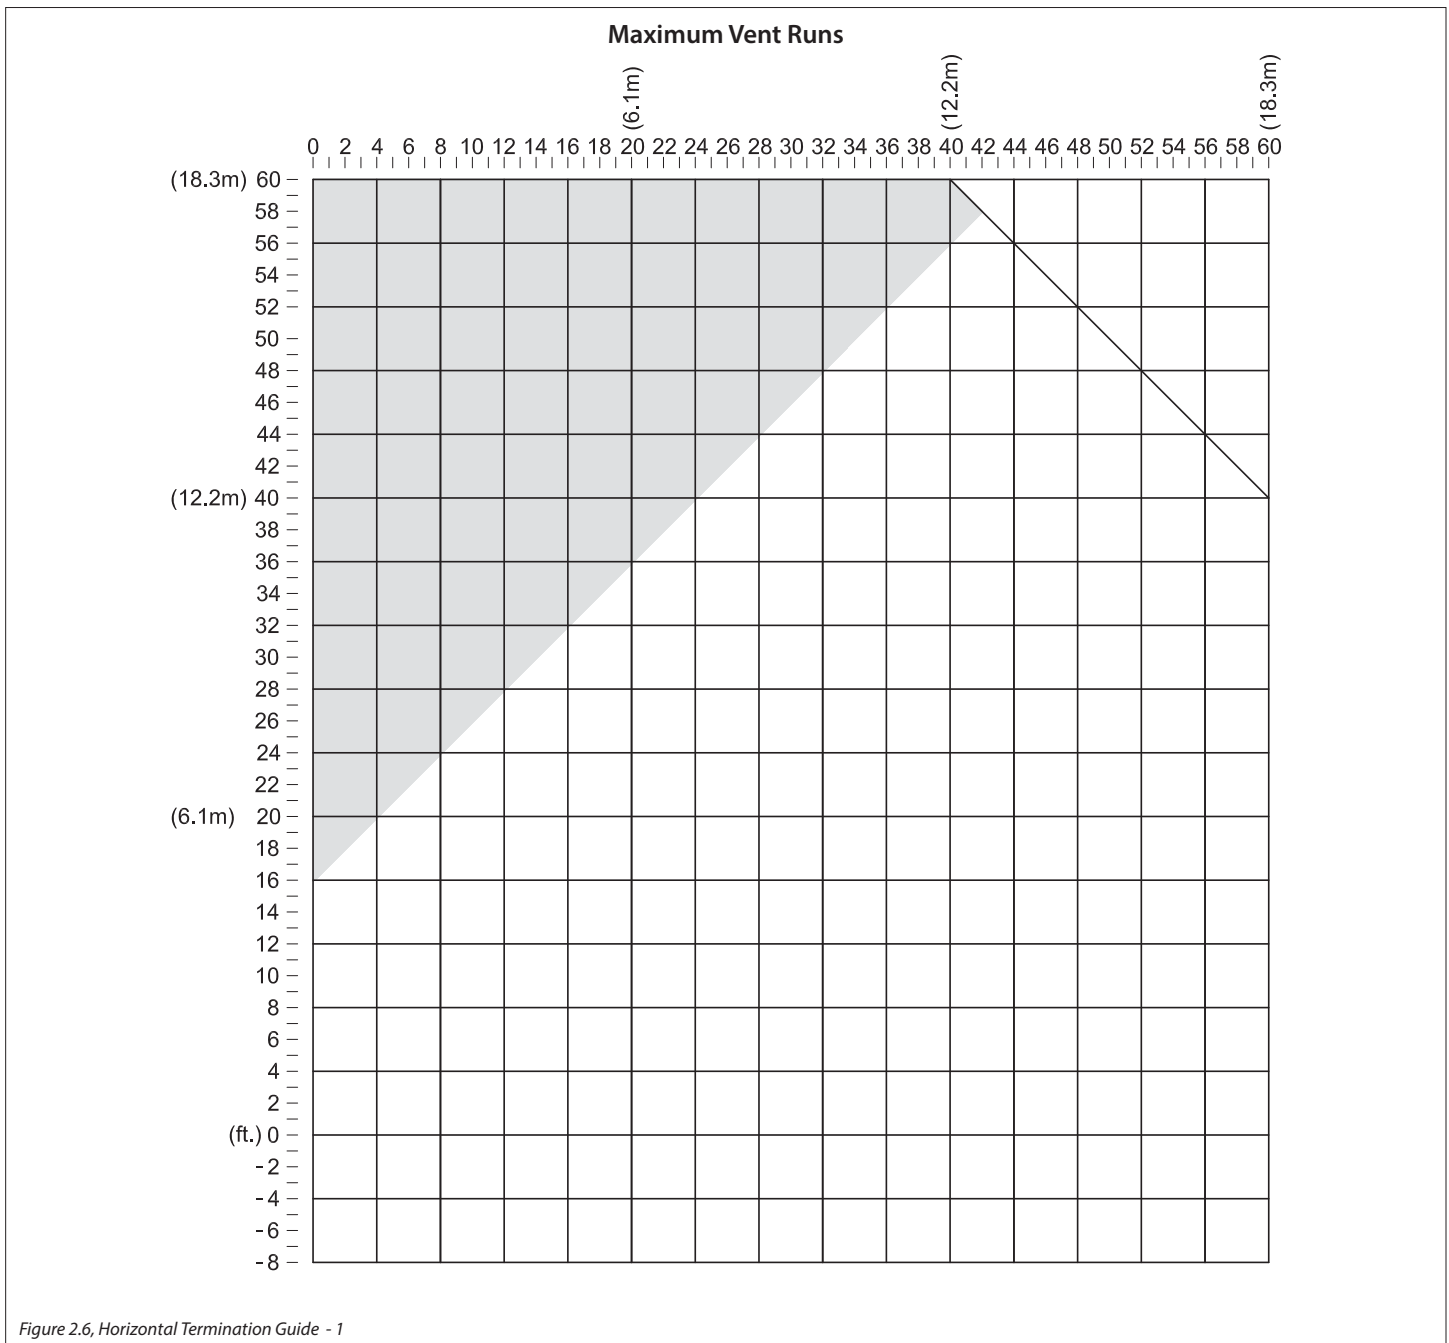

Figure 2.6, Horizontal Termination Guide - 1
- Use Table 2.1 for venting guidelines. Use Figure 2.6 for a guide to calculate total vent run. Termination must be in shaded area.
The draft bypass system is factory set to setting 5; for certain vent runs the draft bypass system will need to be adjusted. To adjust the draft bypass, loosen the locking screw. Adjust clock wise or counter clockwise depending on your specific installation. See Figures 2.6, 2.7, and 2.8.